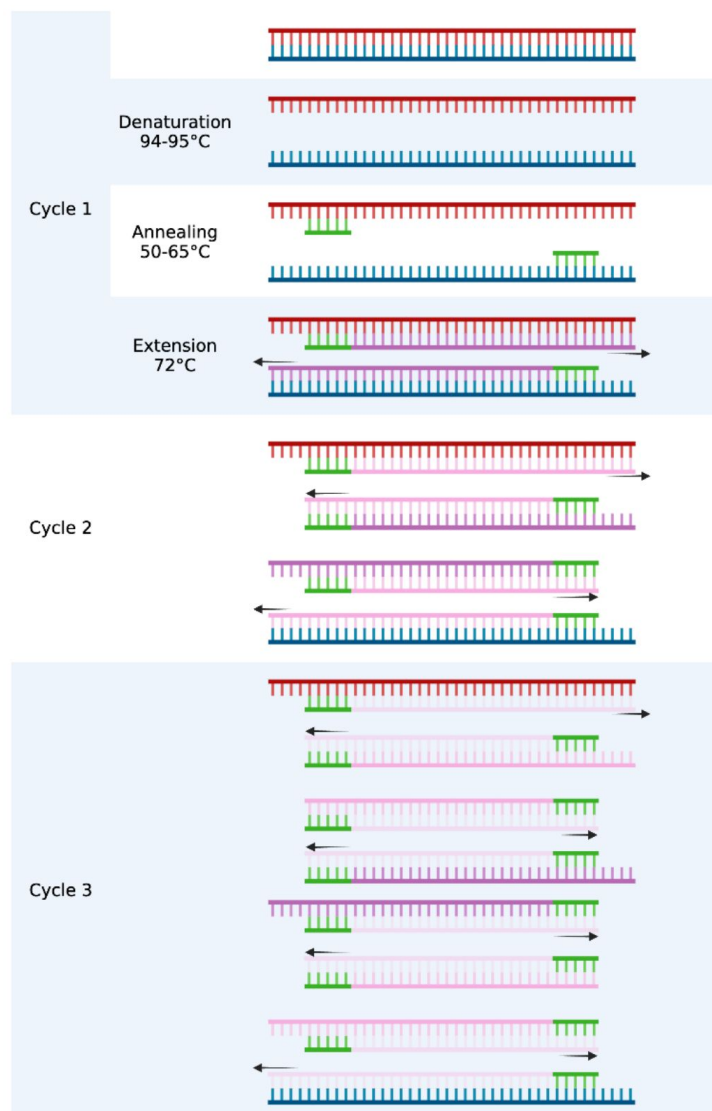
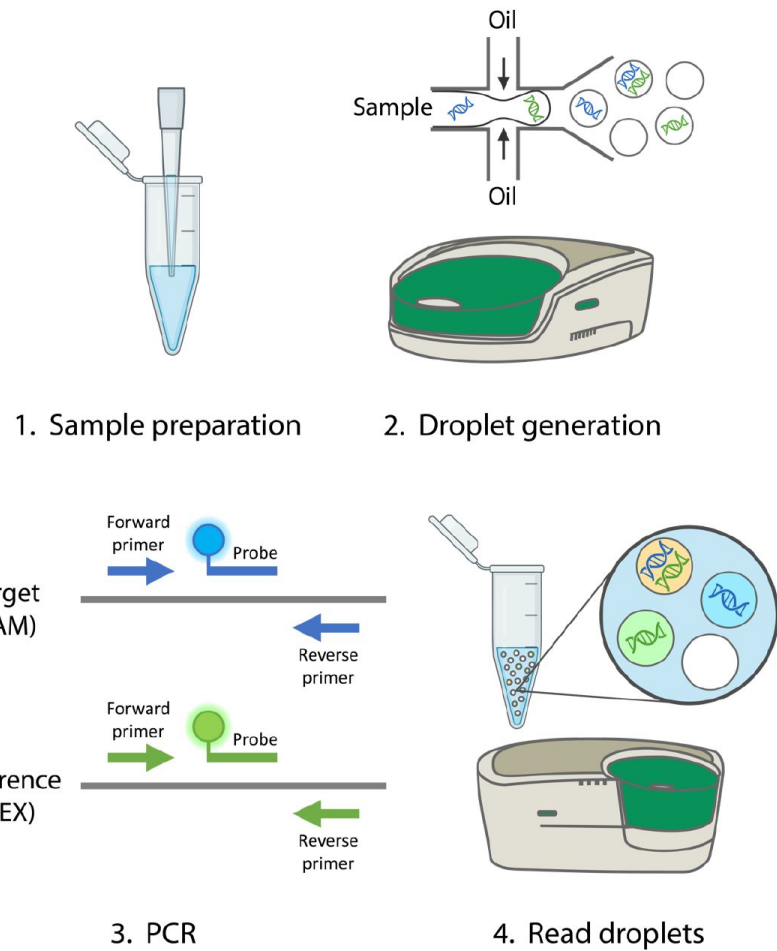

Figure 13. PCR cycles [3]
Figure 14. ddPCR workflow [3]
3. Figures Figure 4, Figure 10, Figure 13, and part of Figures Figure 3, Figure 7. Gel extraction workflow [3], Figure 14 are created with [BioRender.com](https://www.biorender.com)